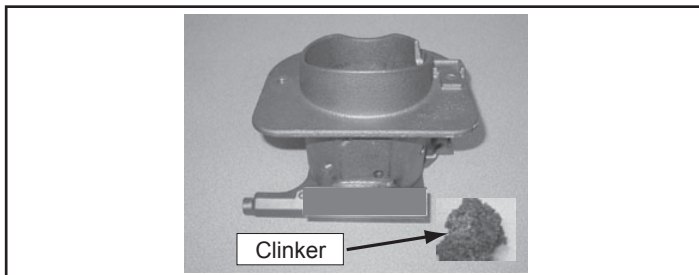

Figure 16.1 - Firepot with large clinker
- d. It may be necessary to use your firepot cleanout tool to chip away material that has built up on the sides of the firepot and to push out any clinkers. **Figure 16.1**